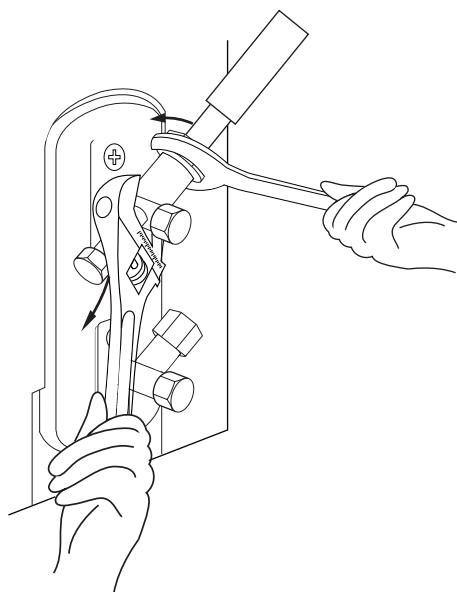

**Fig. 5.9**
1. Unscrew the cover from the packed valve on the side of the outdoor unit. (See **Fig. 5.9**)